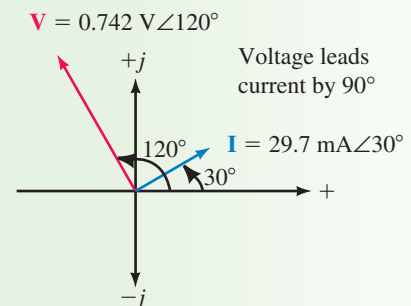

FIGURE 18-11 Voltage and current phasors for an inductor.
- The voltage and current phasors are shown in Figure 18-11.